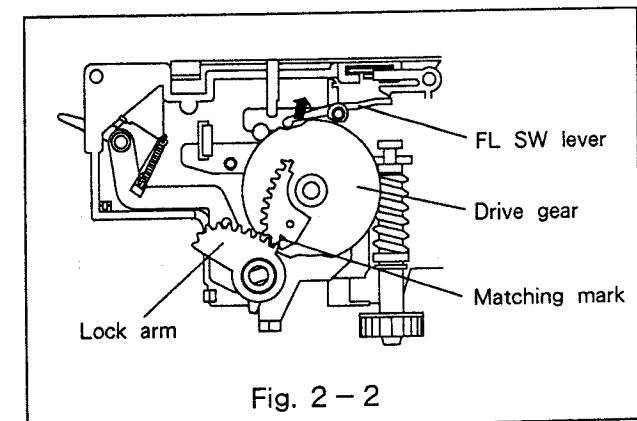

Fig. 2-2
- Turn the FL SW lever clockwise to separate the FL SW lever from the drive gear, and pull the lock arm and drive gear to remove them from the shaft as shown in Fig.2-2.
- Install the drive gear on the shaft as shown in Fig.2-2.
- Line the matching mark on the drive gear and beginning of gear section on the lock arm as shown in Fig.2-2, and install the lock arm.